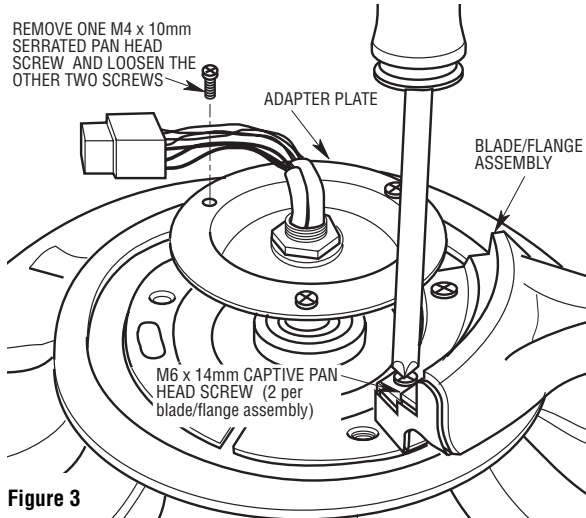

Figure 3
3. Loosely attach one blade/flange assembly to the motor hub by securing the two M6 x 14mm captive pan head screws. Make sure the screws are **NOT** tightened (Figure 3). Repeat this procedure for other four blade assemblies.
- 5. Remove and retain one of the three M4 x 10 mm serrated pan head screws from the adapter plate (Figure 3). Loosen the other two serrated head screws, three or four turns.